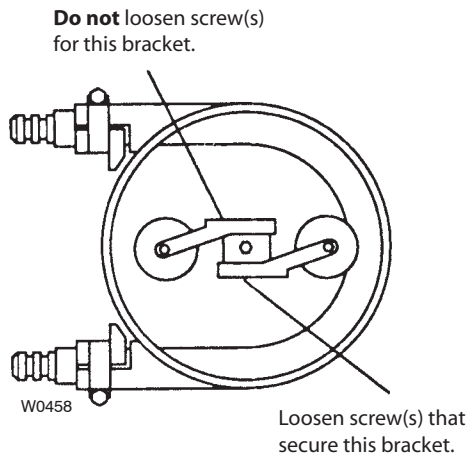

Figure 4
3. See Figure 4. Position pressure rollers as shown.